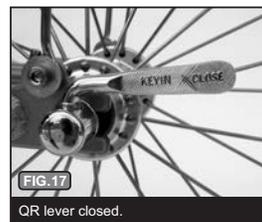

FIG. 17
**G)** Move the quick release lever to the closed position, FIG. 17. The word CLOSE should be clearly visible on the lever and it should be parallel to the wheel stay.
**H) NOTE:** It should require considerable pressure to close the lever when it is properly adjusted. If you do not feel this resistance, turn the quick release lever back to the adjusting position, FIG. 16, and tighten the adjust nut by hand (it is not necessary to use tools) one or two more turns in the clockwise direction then move the quick release lever to the closed position, FIG. 17. When properly adjusted, it requires 80-105 inch - pounds of torque to move the lever to the fully closed position.